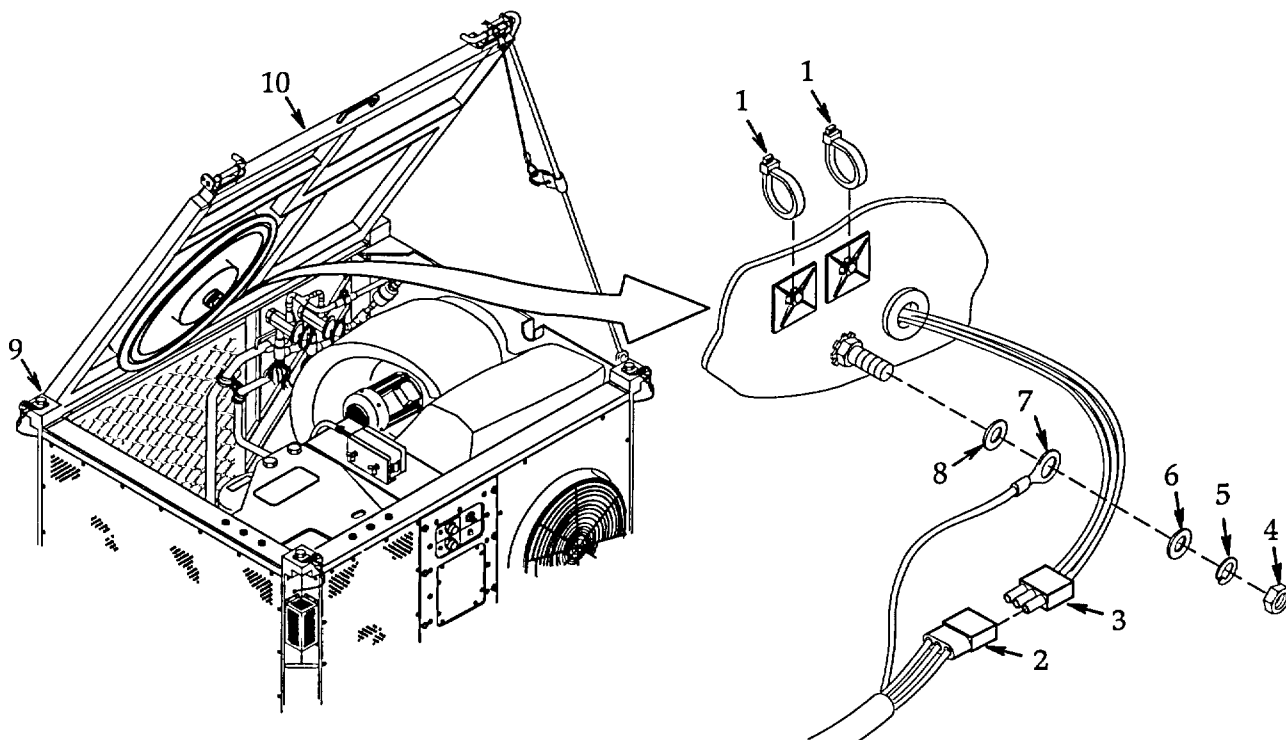

Figure 4-12. Frame Cover Assembly.
- a. **Removal.** See figure 4-12.
b. **Installation.** See figure 4-12.
- (1) Release latch hinges (9) then using two personnel carefully install cover (10) and secure with two rear latch hinges (9).
- (2) Be sure two rear latch hinges (9) are secure then raise and secure cover per paragraph 4.2.
- (3) Install flat washer (8), ground lead (7), flat washer (6), new lock washer (5), and nut (4).
- (4) Connect cap (2) and plug (3).
- (5) Secure outside blower motor cable with two tiedown straps (1). Cut to remove excess tiedown strap material.
- (6) Lower and secure cover per paragraph 4.2.
- (7) Connect FDECU to power source and operate per paragraph 2.4.